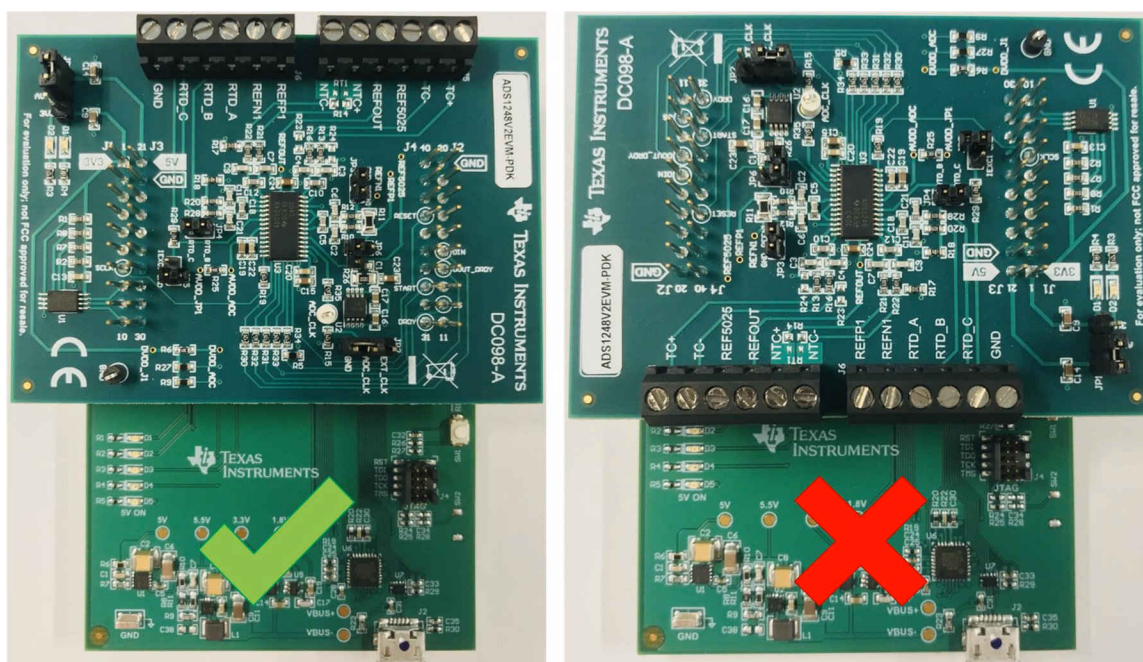

Figure 2-1. Connecting the ADS1x48EVM to the PAM Board
2. If necessary, connect the ADS1x48EVM to the PAMBoard as shown in the left image in Figure 2-1.